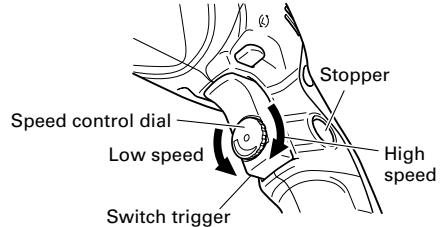

Fig. 10
- Turn the speed control dial clockwise for higher speed and counterclockwise for lower speed. (Fig. 10)